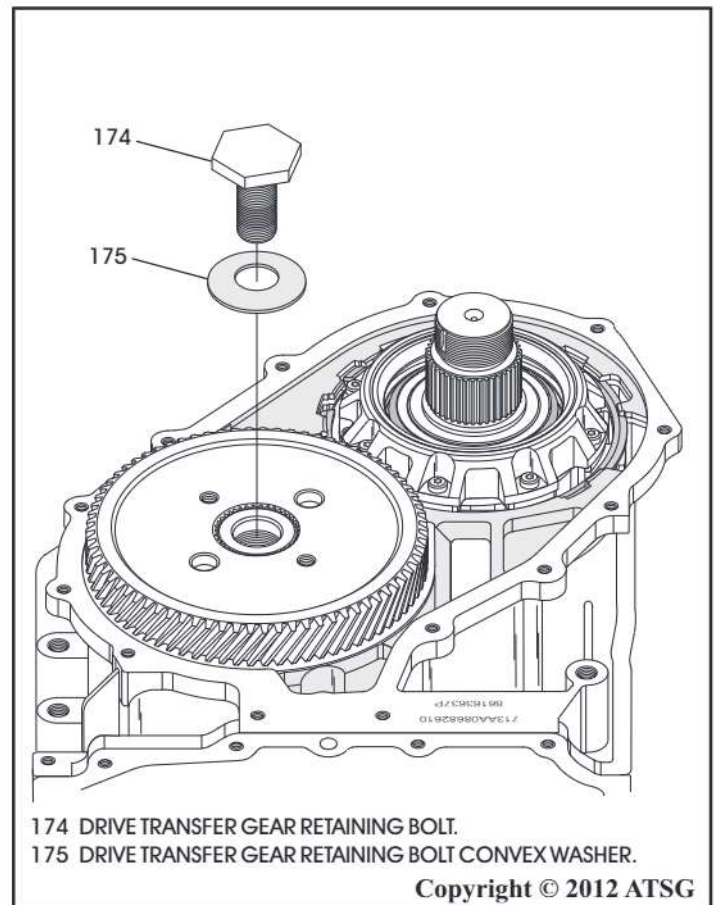

Figure 77
68. Remove the transfer drive gear retaining bolt and convex washer, as shown in Figure 77.